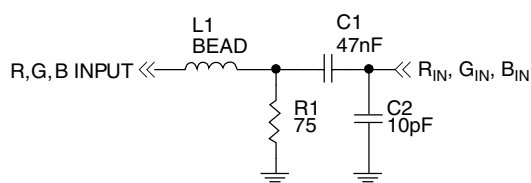

Figure 30. RGB Input Filter Options
5. If necessary, limit bandwidth by adding a ferrite bead in series with each RGB input as shown in Figure 30. A Fair-Rite #2508051217Z0 is recommended. Further bandwidth reduction using a shunt 10pF capacitor may reduce snow (intensity noise) caused by HF noise riding on the RGB input. Mismatches, reflections and noise may cause ringing or distortion of the incoming video signals.